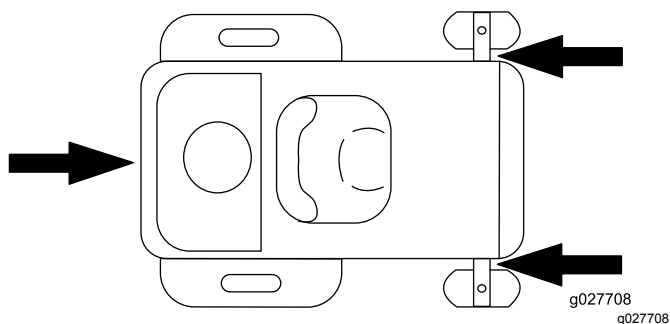

Figure 33
- Securely fasten the machine to the trailer or truck with straps, chains, cable, or ropes. Only use the four designated tie-down locations on the mower—two on the left side and two on the right (Figure 33). Use these locations even when transporting the mower with an attached accessory. Using non-designated locations may cause damage to the mower and/or attachment.